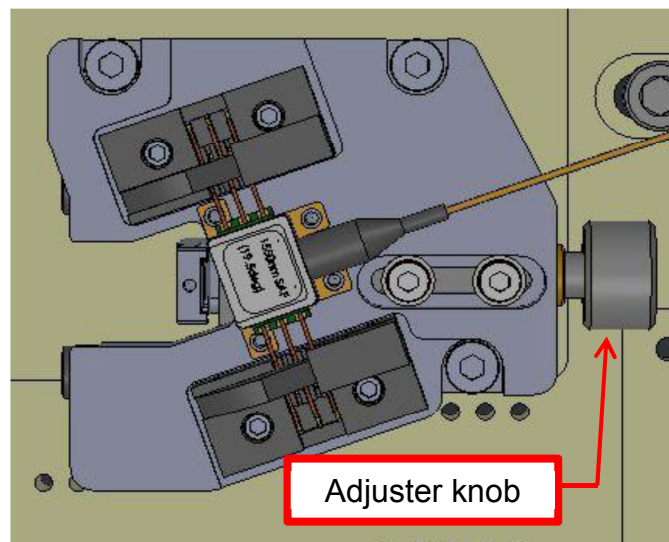

Figure 7 *Collimation Adjustment*
Step 9: The lens holder must now be adjusted for very accurate beam pointing. Accuracy is usually achieved by having the kit mounted to an optical table and then adjusting the lens holder to direct the beam over a line of holes in the table while travelling at a uniform height over a distance of a meter or so. With the lens holder snug yet moveable against the flexure mount, adjustment can be done in two ways as shown in Figure 7: You can either start with the beam pointing high and gently tap or rock the lens holder to bring down the beam to a uniform height, or start with the beam pointing low and then gently rock the lens holder back and forth while applying finger pressure below the holder in order to gradually bring the beam up to a level height. Coma is the main aberration that needs to be eliminated and if you see that this is present, then it may be that the package is not well centered from Step 2 or the flexure mount is slightly twisted and not aligned to the slot in the top plate.